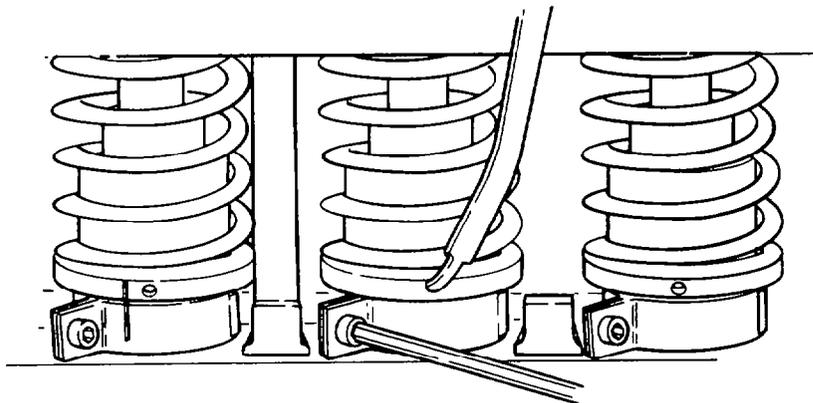

Fig. 115 — Adjusting Segments
- d. Adjust all pump cylinders to 83.0 – 87.0 cc/500 strokes or 50.0 – 52.5 cc/300 strokes fuel flow by loosening the segment screws (fig. 90, item 28) and rotating the control sleeves (fig. 90, item 27) with adjusting pin TSE 7695 as shown in fig. 115. Re-torque the segment screws to 5.0 – 5.5 Nm (45 – 50 lb.in.).